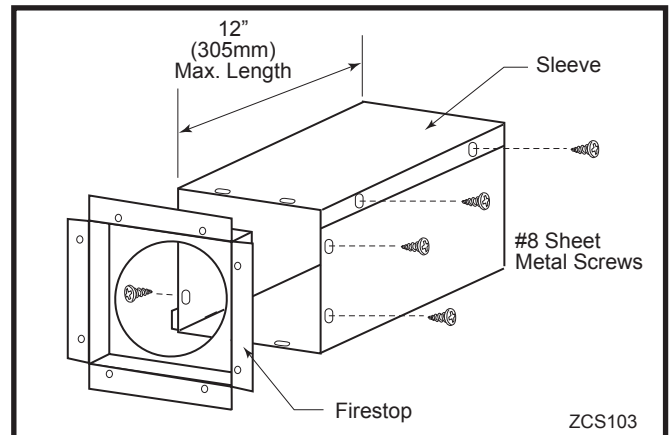

Fig. 25 Assemble the wall sleeve and firestop.
the sleeve with the #8 sheet metal screws supplied. Attach the firestop plate to the sleeve end with the holes. (Fig. 25) **NOTE:** The wall sleeve is required in combustible walls only.
2. Measure the wall thickness and cut the wall sleeve sections to proper length (MAXIMUM 12"). Assemble the sleeve with the #8 sheet metal screws supplied. Attach the firestop plate to the sleeve end with the holes. (Fig. 25) **NOTE:** The wall sleeve is required in combustible walls only.
3. Install the Wall Firestop/Sleeve assembly into the wall cutout and fasten the firestop to the wall cutout framing members. (Fig. 25)